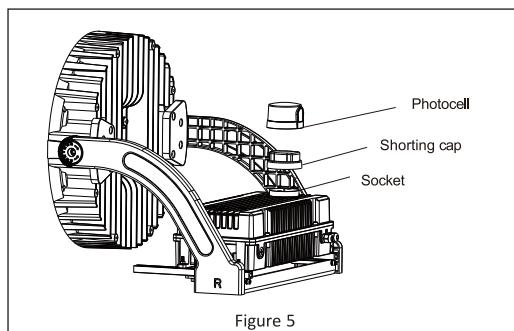

Figure 5
1. Install the keyed photocell in the receptacle on top. **See Figure 5.**